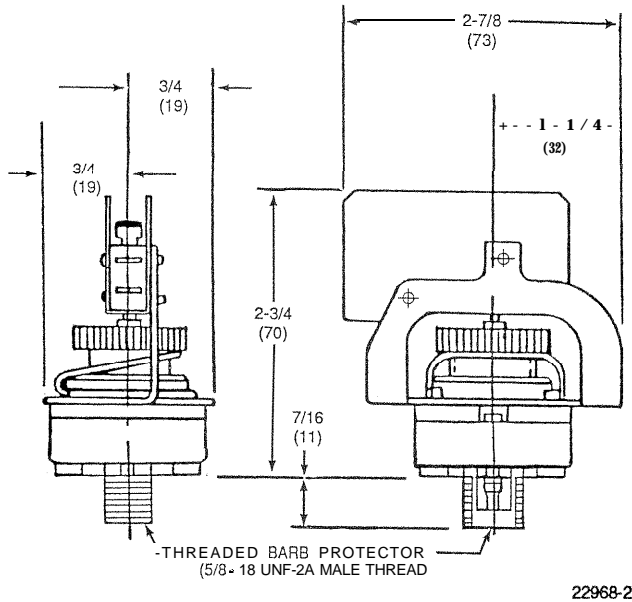
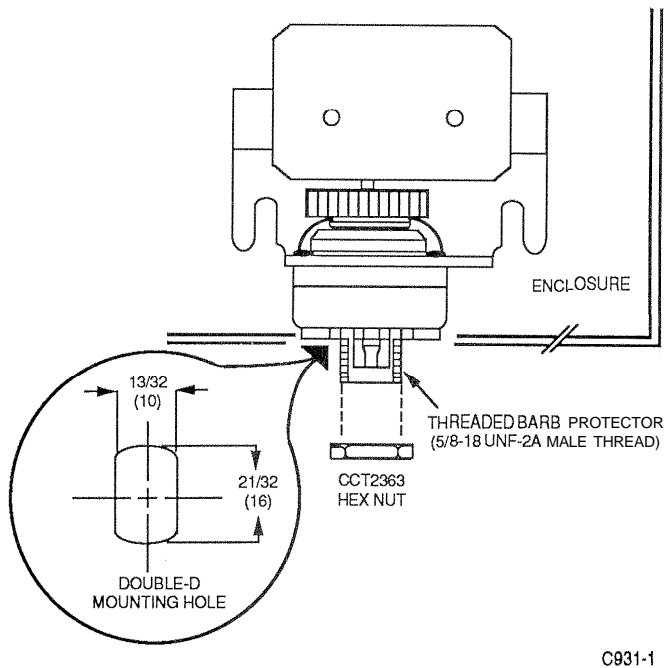

Fig. 4. P658F Switch Approximate Mounting Dimensions in Inches (Millimeters).
Fig. 5. Locating P658F Barb Outside of Enclosure.
4. Mount P658F (Fig. 4) with barb outside of electrical enclosure or panel. Insert barb protector through double-D 21/32-in. (16 mm) hole or 1/2-in. conduit knockout on side of enclosure. Tighten CCT2363 5/8-18 Hex Nut over threaded barb protector (Fig. 5).